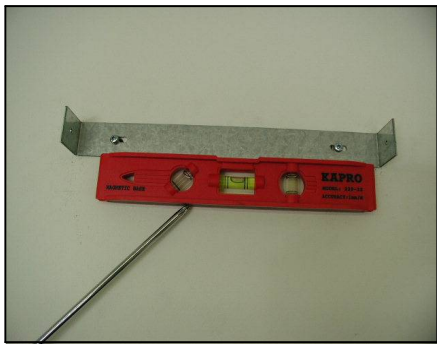

Figure 27
4. Mark the position of the duct cover-mounting bracket. Use reference **E** from Table 2 and measurements on page 21-22. Attach and secure duct cover-mounting bracket with two screws (not provided). Refer to Figure 27. **NOTE:** Inner duct cover will cover the mounting bracket.